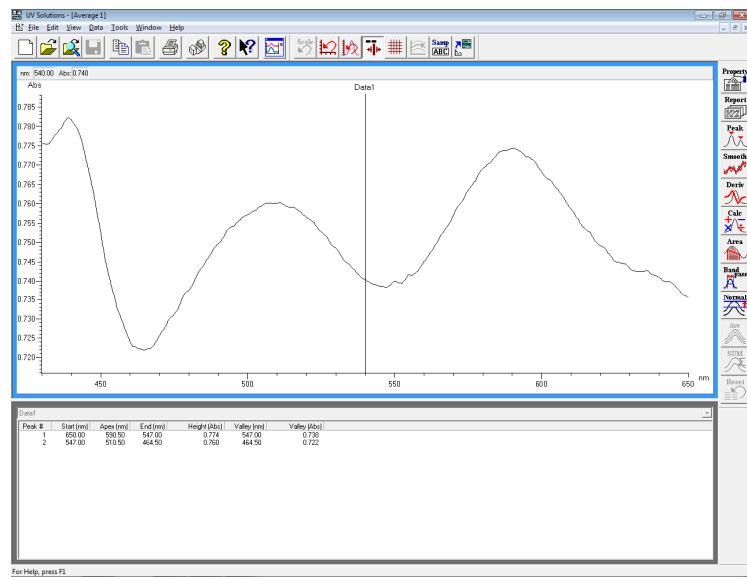

Fig. 5-81
(3) An average spectrum is displayed. (Refer to Fig. 5-81.)